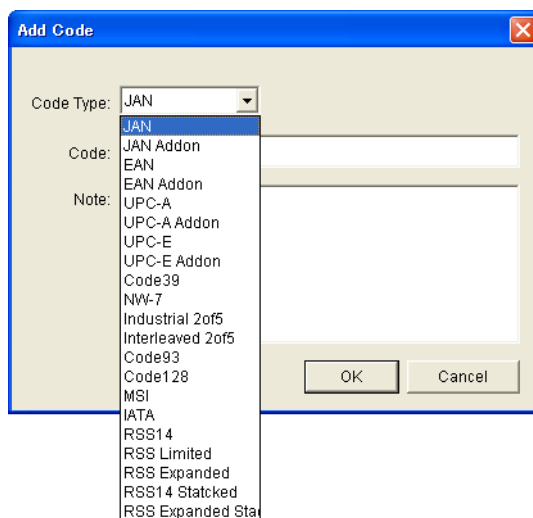

Figure 7.6
- Enter bar code data in the **Code** field (see Figure 7.6) and a note about the bar code in the **Note** field if necessary. Click **OK** button to complete the bar code registration.